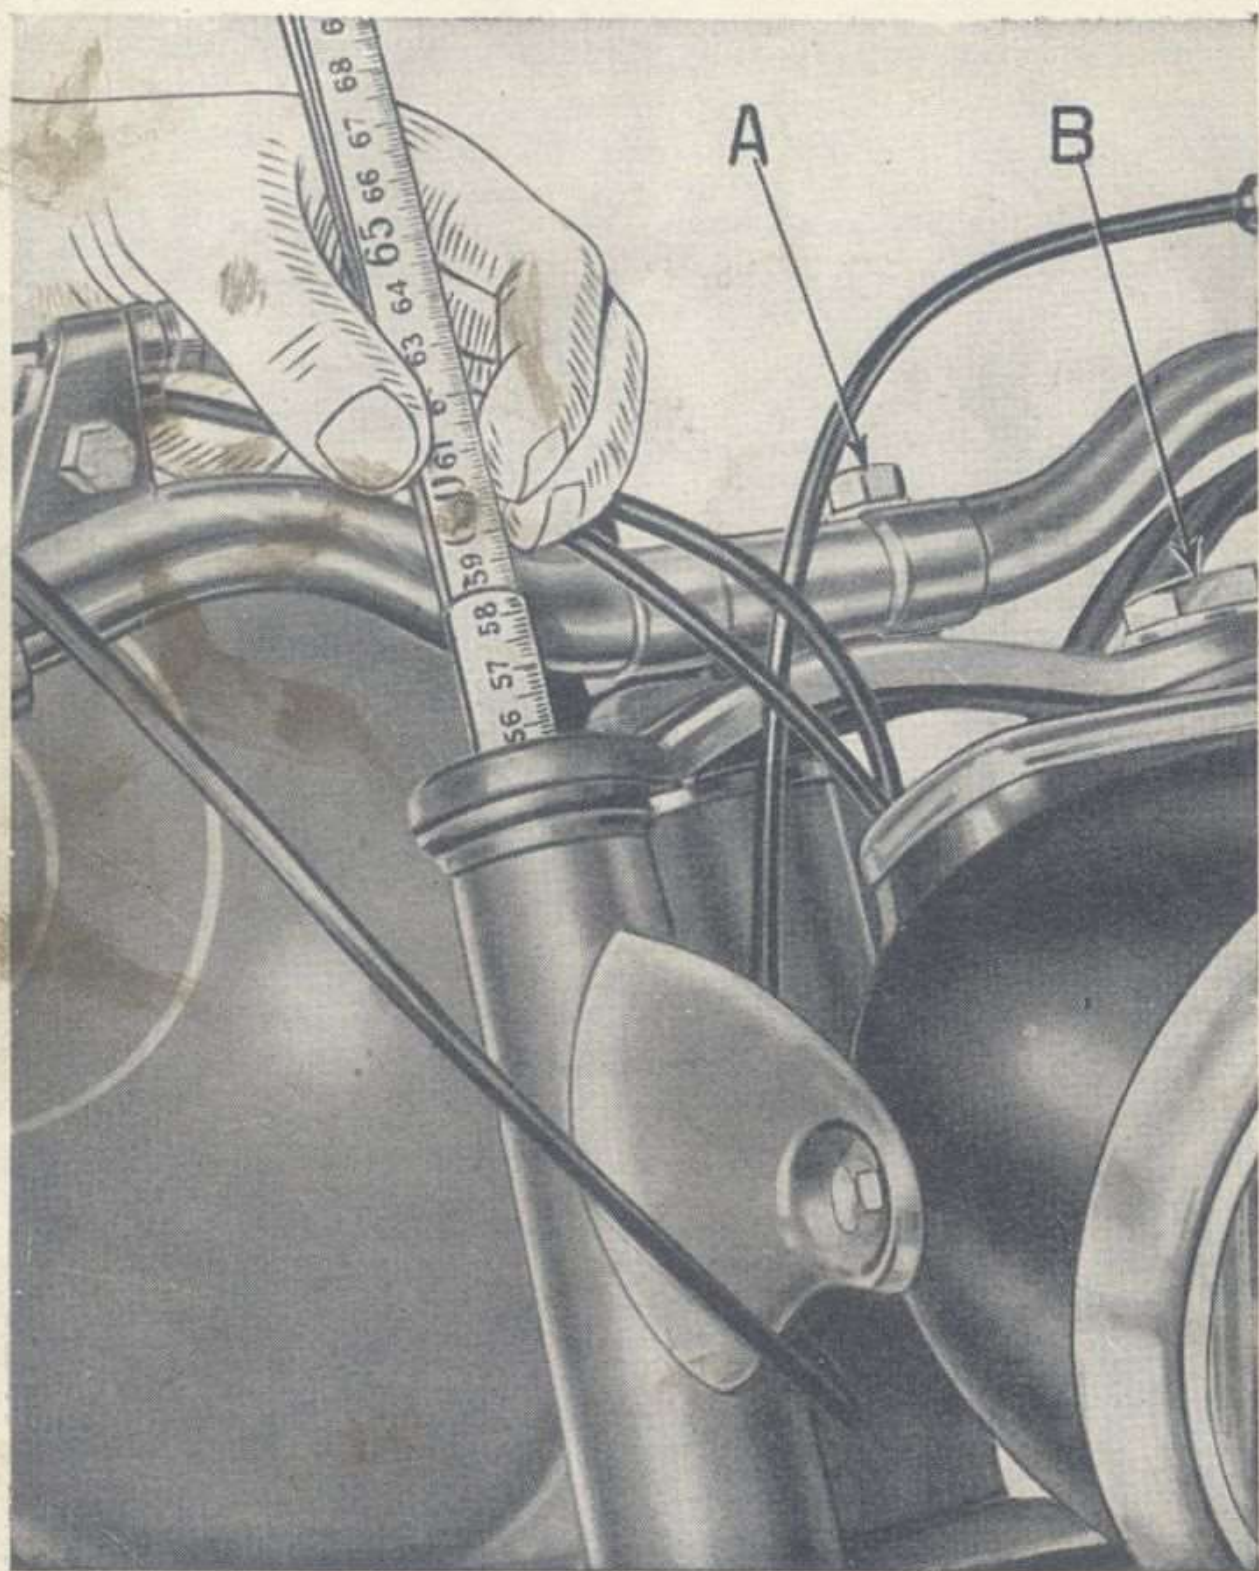

Fig. 7
(see fig. 7)
- loosen the handlebar securing bolts (A) and turn the handlebar just enough to allow the removal of both fork caps (B);
- Check the oil level by means of a steel ruler introduced into the fork tube down to its full length (55,5 cm. - 21 7/8"), as shown in fig. 7.